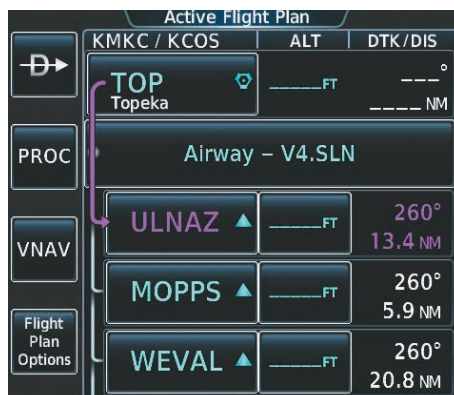

Figure 5-170 V4 Leg is Active
- c) Touch the **OK** Button to activate the leg (Figure 5-170).